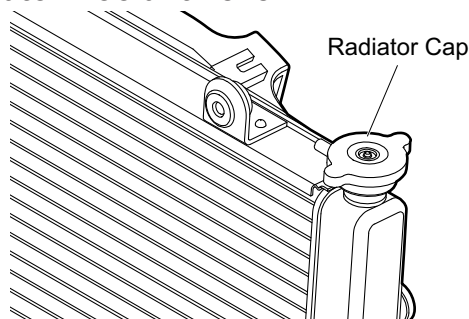

Fig. 3 Radiator Cap
1. Slowly remove the radiator pressure cap (Ref. Fig. 3).